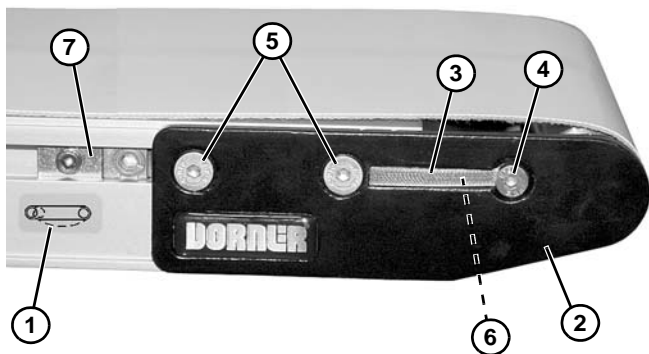

Figure 86
1. On tension end of the conveyor, identified with a  label (**Figure 86, item 1**), adjust head plate assembly (**Figure 86, item 2**):
- a. If equipped with dust covers (**Figure 86, item 3**), remove screw (**Figure 86, item 4**) and dust cover on both sides of conveyor. Reinstall screw (**Figure 86, item 4**).
- b. On both sides of conveyor, loosen fastening screws (**Figure 86, item 5**) and rotate pinion gear (**Figure 86, item 6**) to adjust head plate assembly.
3. After adjusting proper tensioning, tighten fastening screws (**Figure 86, item 5**) on both sides of conveyor to 60 in-lb (7 Nm).
4. If equipped, install dust covers (**Figure 86, item 3**).
5. If equipped with cam tracking assemblies (**Figure 86, item 7**), position against head plates and adjust belt tracking. Refer to "Conveyor Belt Tracking" on page 44.